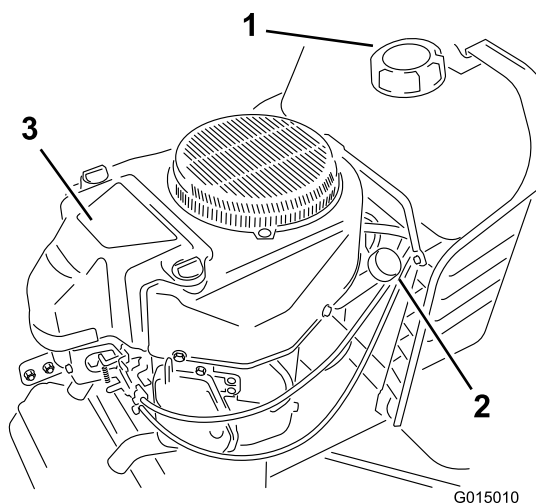

Figure 17
5. Clean around the oil dipstick (Figure 17) so that dirt cannot fall into the fill hole and damage the engine.
10. Slowly pour approximately 80% of the specified amount of oil into the fill hole (Figure 17). Check the oil level; refer to Checking the Oil Level.
6. Slowly pour about 80% of the specified amount of oil into the fill hole (Figure 17). Check the oil level; refer to steps 6 and 7 of Checking the Oil Level.